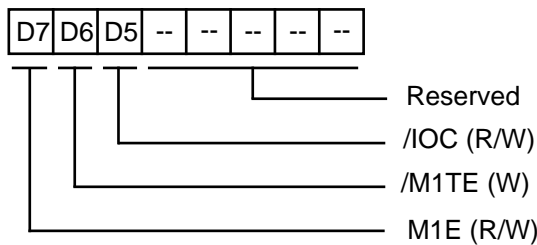

Figure 8. Operating Control Register
**Z80® versus 64180 Compatibility.** The Z80180/Z8S180/Z8L180 is descended from two different “ancestor” processors, Zilog’s original Z80 and the Hitachi 64180. The Operating Mode Control Register (OMCR), shown in Figure 8, can be programmed to select between certain Z80 and 64180 differences.